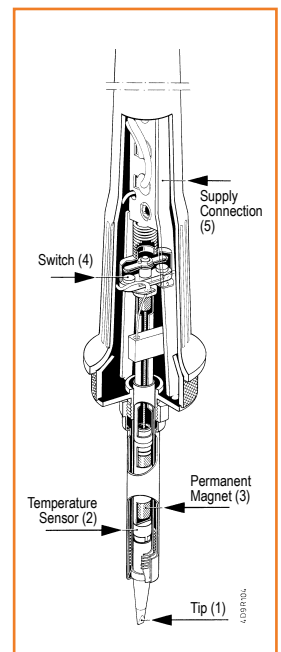

Figure 1.
Figure 1 shows the internal construction of the soldering iron. Reading upwards, the tip (1) is linked mechanically to a metal cap (2), which forms the temperature sensor in this system. The cap is ferromagnetic and in its cold state attracts a permanent magnet (3). A push rod transfers the movement arising from this action to a contact bridge (4), which enables the heater current supply (5) to switch in.